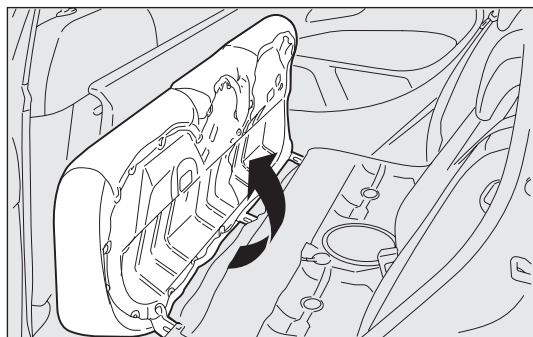

fig. 76
- tilt the cushions forward as shown by the arrow fig. 76;